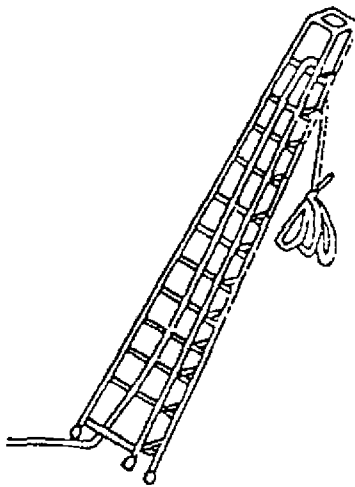
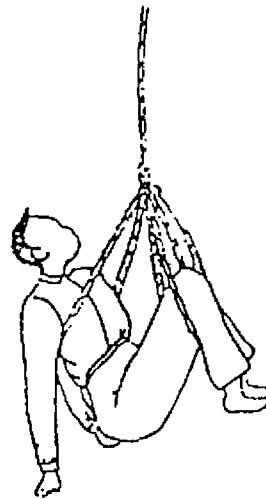

Fig. 7-1 How to extend rope
Fig. 7-2 Body sling made from a triple-loop bowline knot
(3) Setup
- b. Make a triple-loop bowline knot at one end of the rope to use as a sling for the victim. Run the knot under the bottom rung of the ladder and over all of the other rungs. Extend the rope and hang it over the second or third rung from the top to drop behind the ladder. (Fig. 7-1)
(4) Rescue
- a. Place the victim in the triple-loop bowline sling and lower the victim from the ladder rung in coordination with the belayer of the rescue rope. (Fig. 7-2)